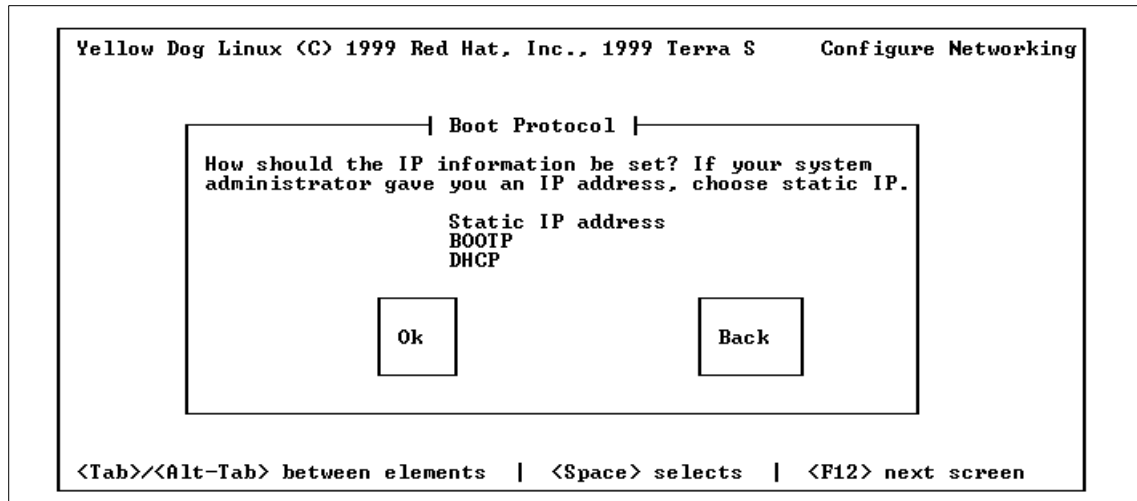
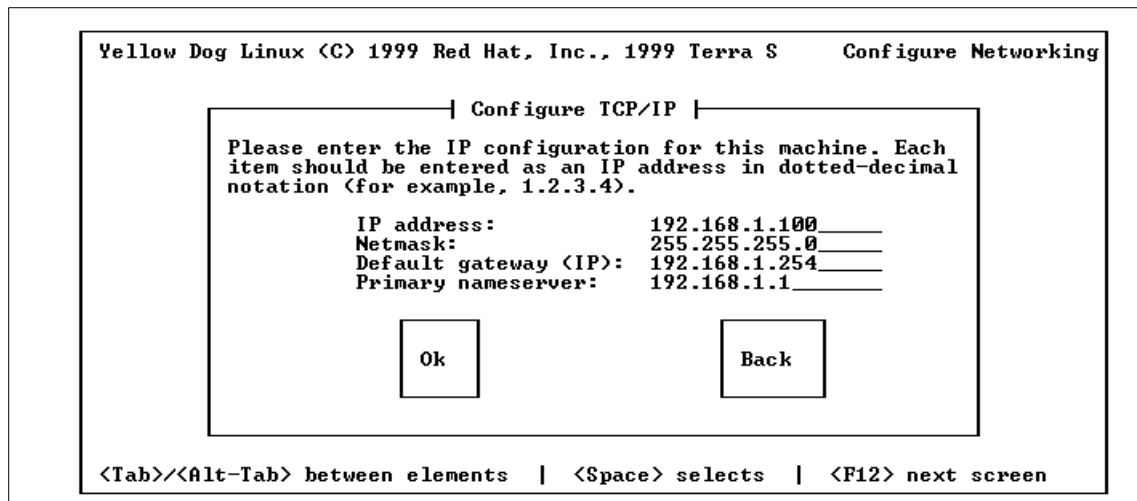
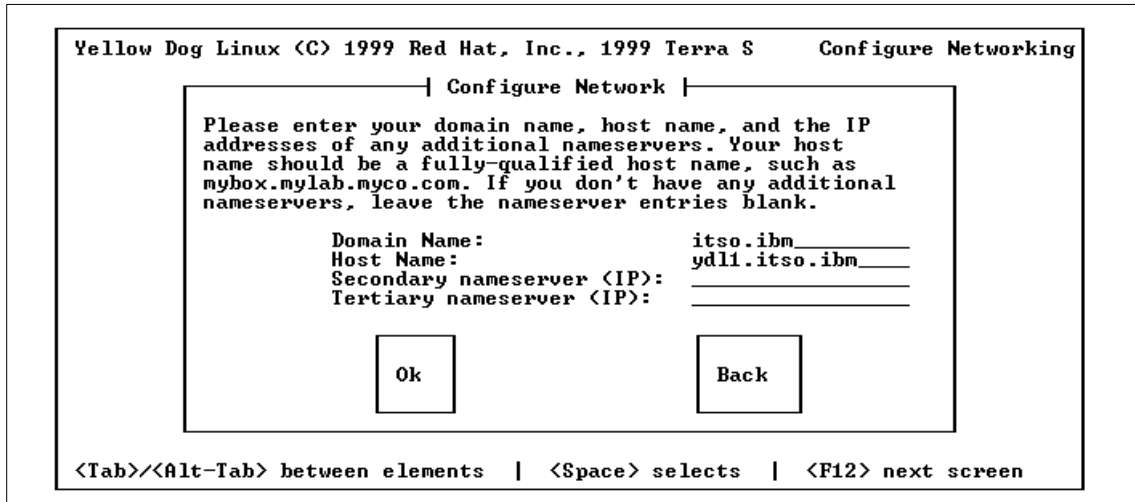

Figure 41. Network Configuration - 1
Figure 42. Network Configuration - 2
Figure 43. Network Configuration - 3
20. Configuring your network is next. You need to know the IP address, netmask, hostname, if you have a default router, and nameserver. Set these values as shown in Figure 41, Figure 42, and Figure 43 on page 173.